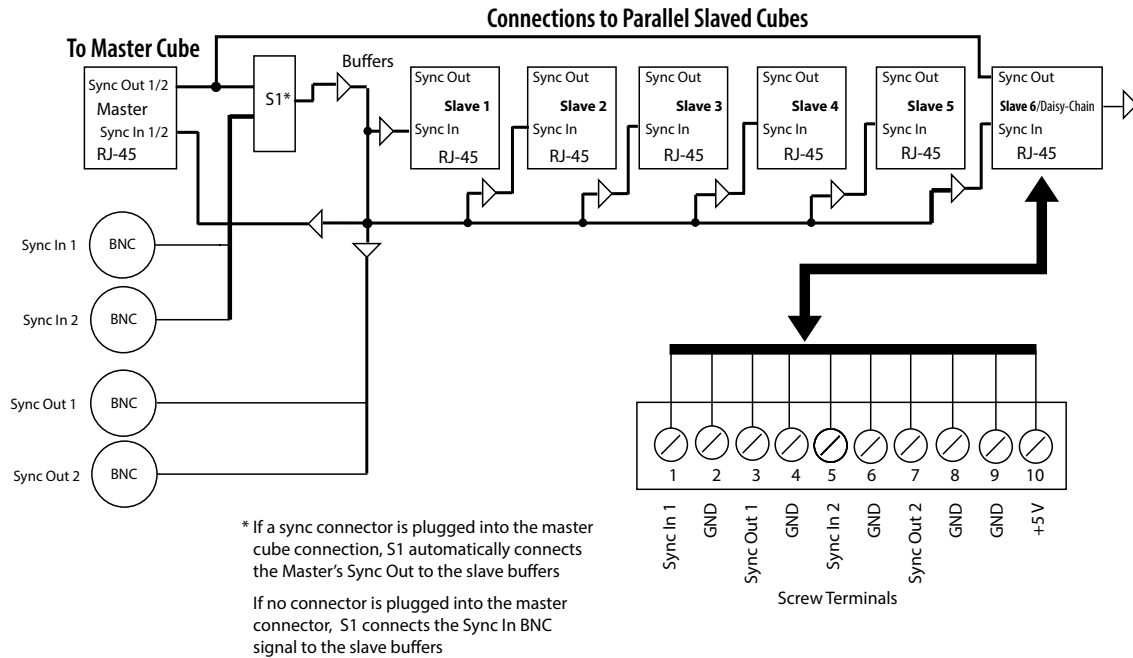

Figure 1-5 Block Diagram of DNA-STP-SYNC-1G
Figure 1-5 provides a block diagram of the DNA-STP-SYNC-1G panel. For more information about UEI synchronization cables, refer to Appendix A.
- Delay through DNA-STP-SYNC-1G (**Figure 1-5**) is approximately 100 ns